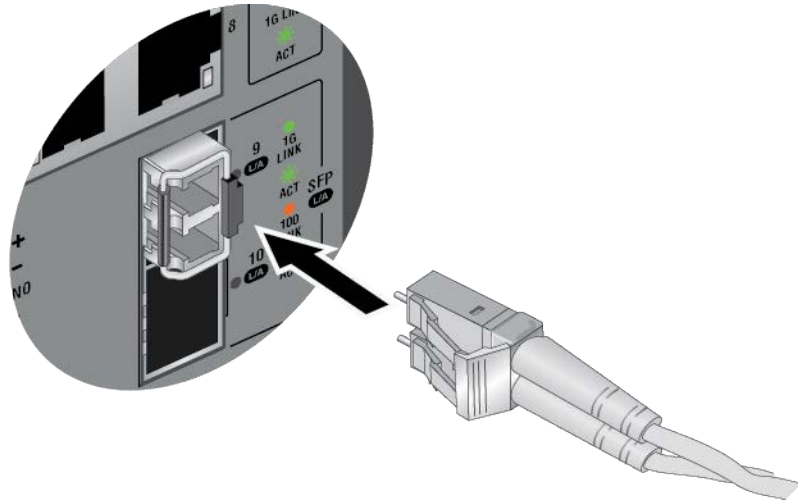

Figure 44. Connecting a Fiber Optic Cable to a Transceiver
6. Connect the fiber optic cable to the transceiver. The connector on the cable should fit snugly into the port, and the tab should lock the connector into place. Refer to Figure 44 on page 99.